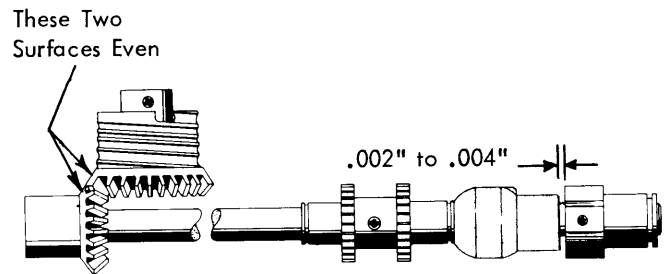

FIGURE 103. Gear Mesh And Operational Shaft Adjustment
- a. Adjust the operational shaft laterally so that the crown surfaces of the escapement cord drum gear and the carrier return pinion are even (Fig. 103). On the 721, the position of the operational shaft is controlled by the operational cam ratchet and the shift clutch arbor. On long carriage machines the position is controlled by a collar set screwed to the shaft and the shift clutch ratchet. Be sure to maintain .002" to .004" end play in the operational shaft.